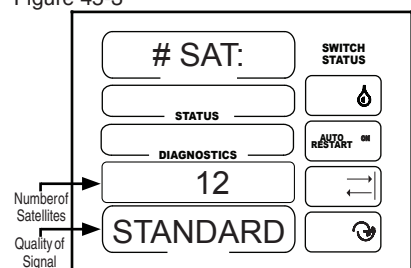

Figure 45-4
1. # SAT: , number of satellites and quality of the satellite signal should be displayed. See figure 45-4.